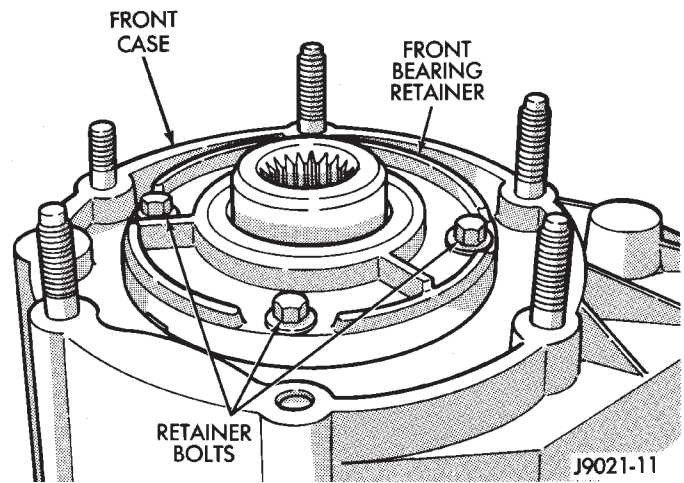

Fig. 22 Front Bearing Retainer Bolt Locations
(34) Turn front case over and remove front bearing retainer bolts (Fig. 22).
- (20) Install front bearing retainer on front case (Fig. 22). Tighten retainer bolts to 21 N·m (16 ft. lbs.) torque.